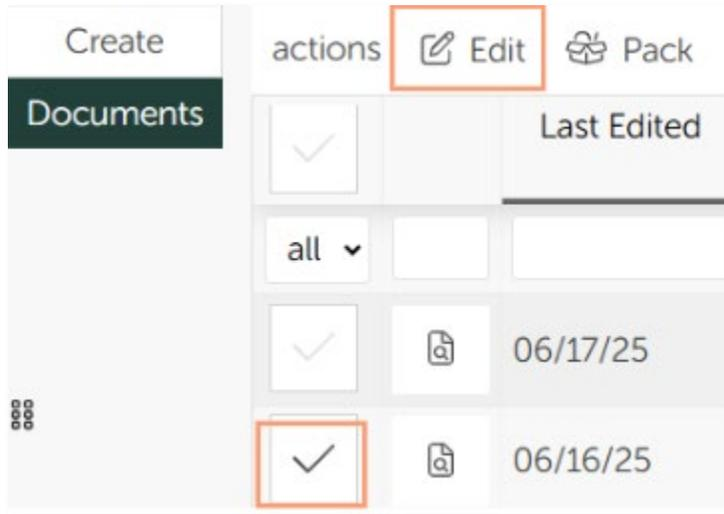

Figure 10: Edit button for Product Cards in the Catalogue
- Go to the Documents tab, check the box, and click Edit – **see Figure 10.**